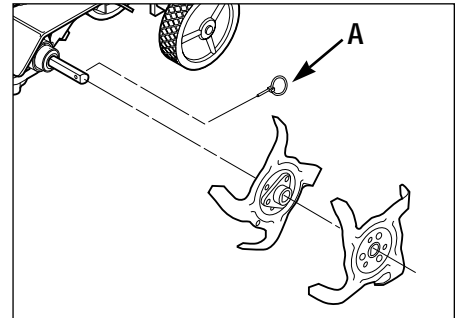

Figure 16: Remove ring lock pin (A) to take off tines.
**IMPORTANT:** The ring lock pin (A, Figure 16) is under spring tension – wear gloves to protect your fingers when removing or replacing the ring lock pin.
2. Flip open the ring (A, Figure 16) on the left side ring lock pin and remove the ring lock pin.
2. Remove the ring lock pin (A, Figure 16) from both sides of the unit. Remove both outer tine sections. Mark each section as a left or right side tine and whether it is an inner or outer section.
2. Remove the ring lock pin (A, Figure 16) from both sides of the unit. Remove the old tine sections and replace them with new tine sections. Refer to Figure 16 and the tine pattern shown in the *Parts List* for tine positioning details. Insert the ring lock pins through the rounded side of the tine shafts and snap the ring over the shaft (see *DETAIL - Ring Lock Pin*, Figure 4, in Section 2).